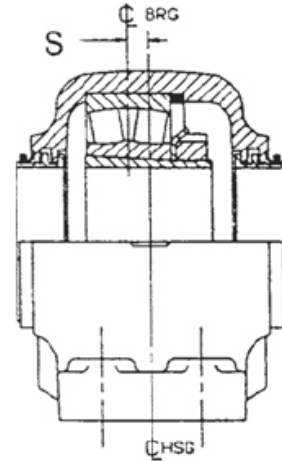

Figure 2
**NOTE:** Bearing can only be correctly installed one way (Figure 2).
- d. **Bearing** — Make sure the internal clearance has been written down. Install bearing on adapter sleeve, large end of tapered bore first. Locate bearing in proper position on shaft. Before tightening refer to Figure 2 and Table 4.
**NOTE:** Be sure the housing is positioned as shown in Figure 2 view relative to adapter nut.